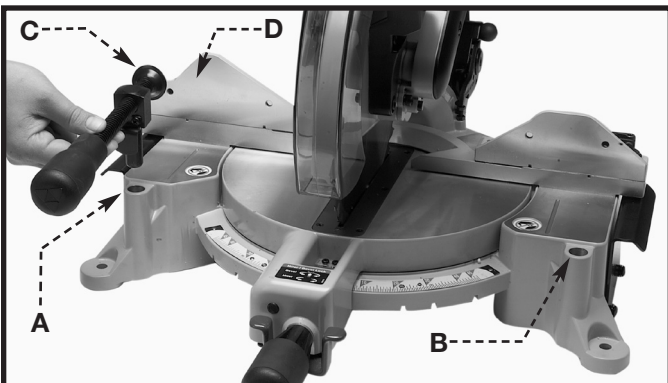

Fig. 7
Two holes (A) and (B) Fig. 7 are provided in the base of the miter saw for attaching the work clamp. Place the shaft of the work clamp in either hole (A) or (B) with the clamp cup (C) facing toward the fence (D).